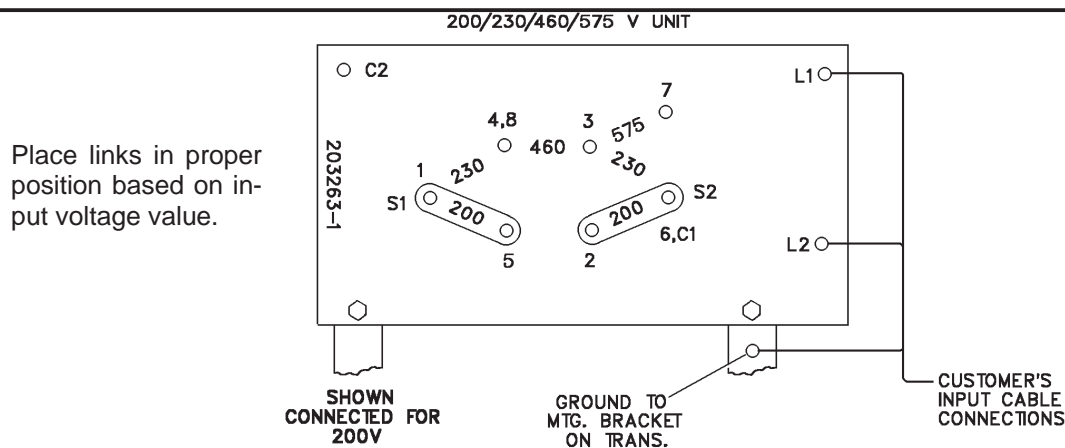
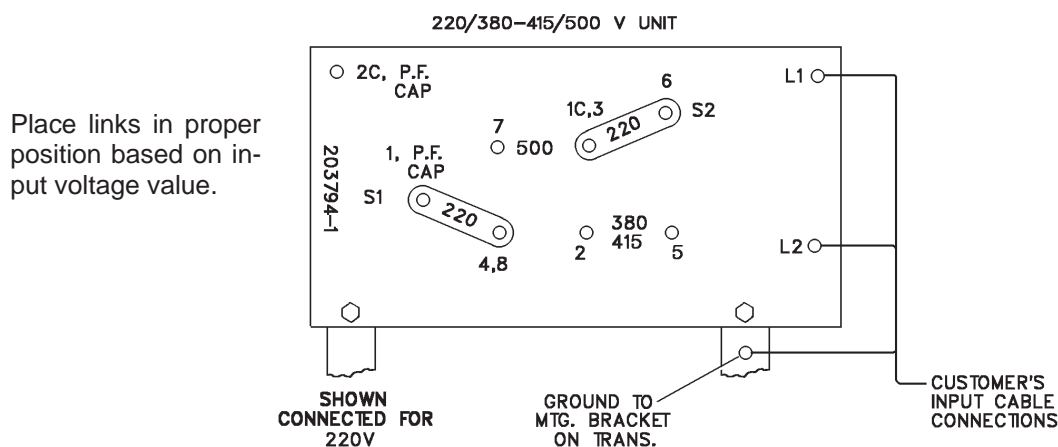

Figure 4-3 Input Voltage Connection and Changeover
Figure 4-4 Input Voltage Connection and Changeover
2. For access to input terminal board, remove the screws which secure the right side panel of the power supply. The input terminal board, Figure 4-3 or Figure 4-4, is clearly marked to show the available primary voltage connections which may be used. Set the voltage links, on this board, to match your actual incoming voltage. As shipped from the factory, the input terminal board voltage links are set up for the highest line voltage.